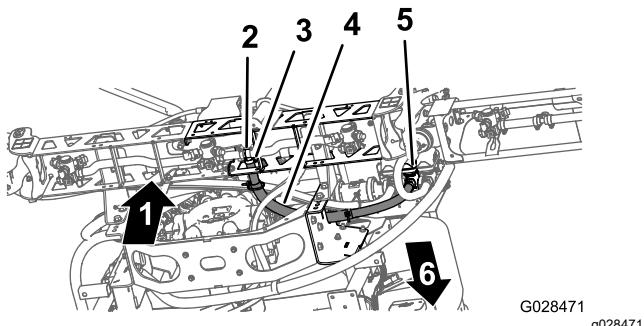

Figure 44
1. Route the center boom-section hose as shown in Figure 44.
2. Install the boom section hose over the barbed T-fitting at the center boom section and secure the hose with a hose clamp (Figure 44).